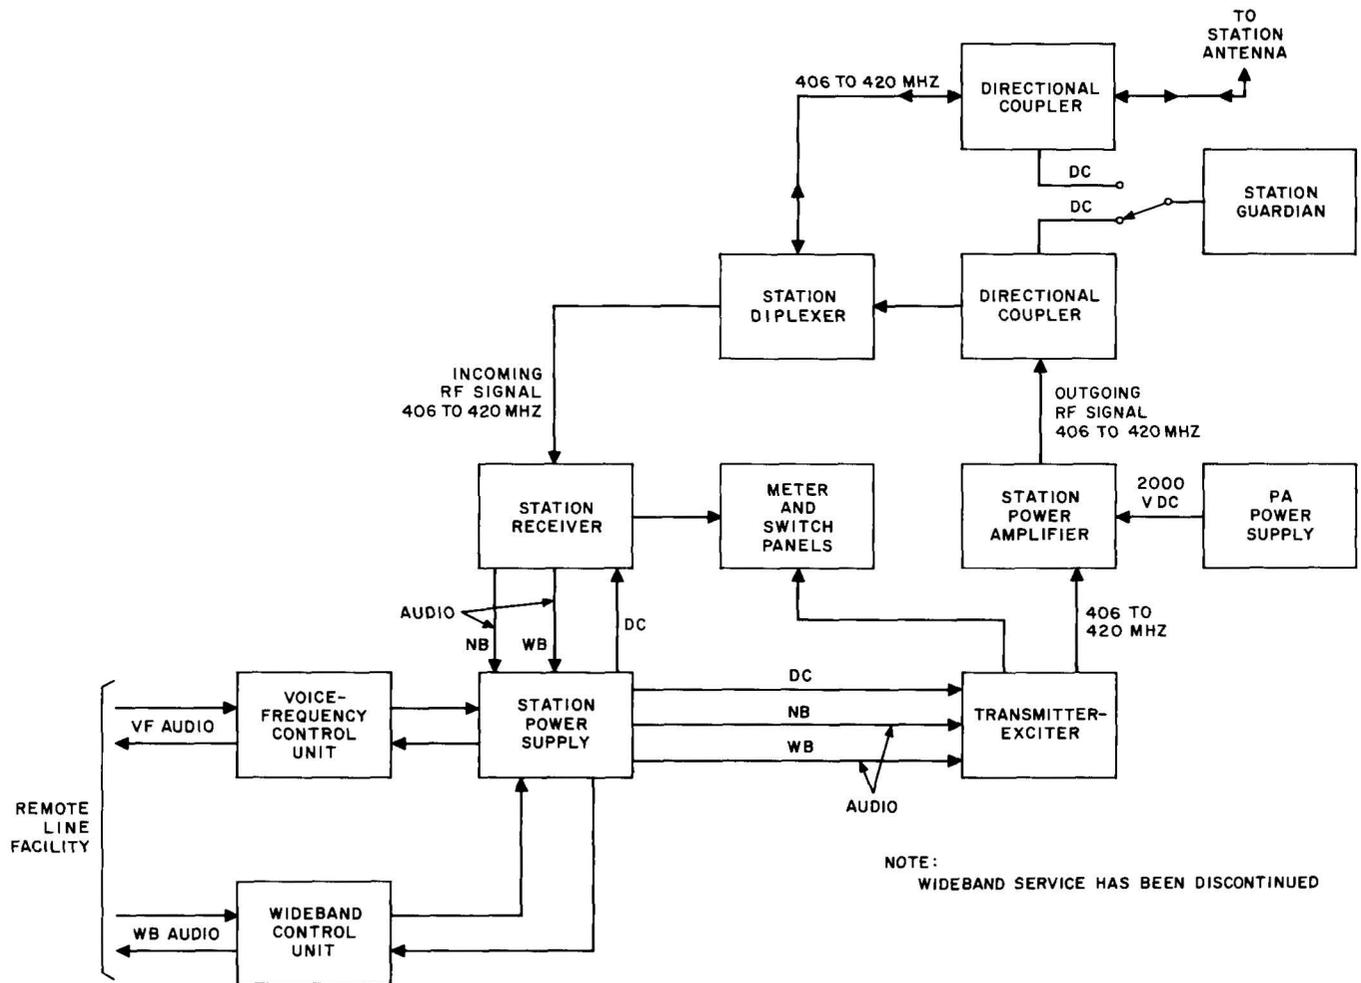

Fig. 4—Echo-Fox Base Station—Block Diagram
3.01 As shown in Fig. 4, all RF signals are received and transmitted through a common
3.07 As shown in Fig. 4, the Station Guardian monitors the forward power and reflected power in the feed line to the diplexer and, alternately, to the antenna.